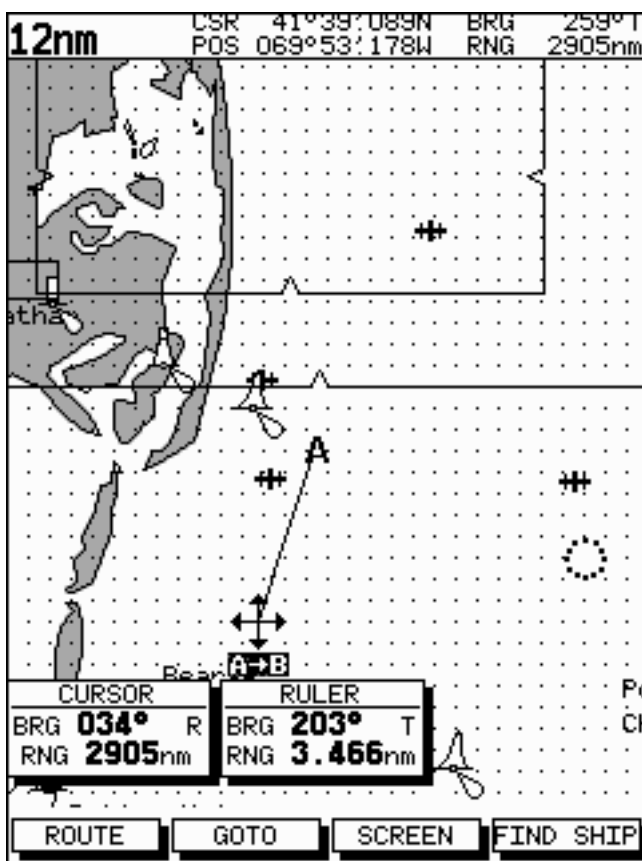

Figure 6-1: Measuring Distance Using a VRM
3. Use the trackpad to move the cursor to the measurement end point. A line connects the cursor to the starting point, and the Ruler data box is updated to show the bearing and length of the line as shown in *Figure 6-1*.